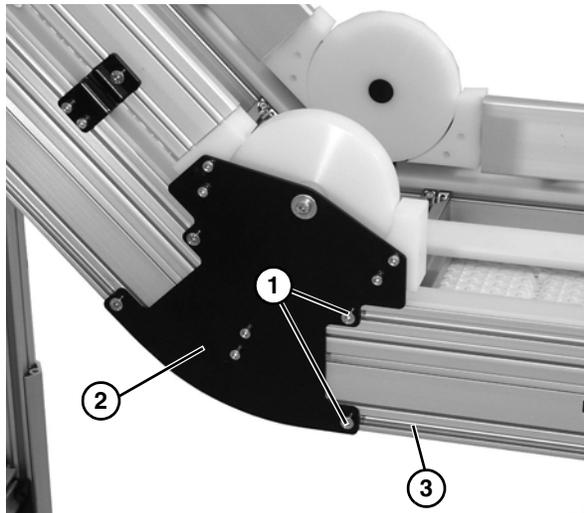

Figure 7
2. Attach lower knuckle to frame by loosening two socket head capscrews (Figure 7, item 1) on each side of lower knuckle assembly (Figure 7, item 2), and sliding T-Nuts into straight frame section (Figure 7, item 3).